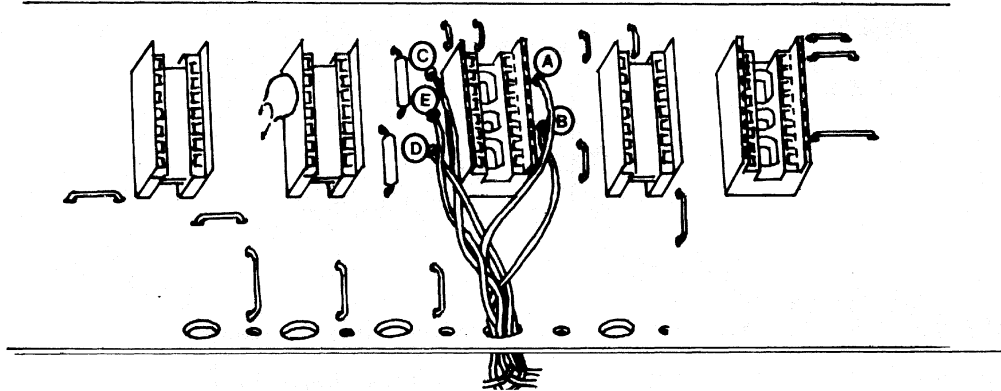

Figure 2: Wire Routing
- ( ) Route all 5 of the wires installed above through the closest large hole in the edge of the encoder circuit board as shown in figure 2 below.